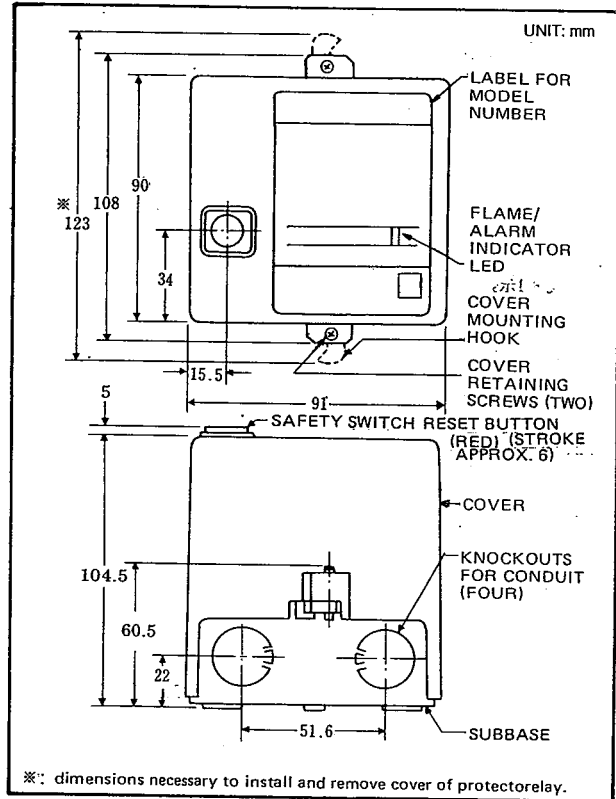

Fig. 1 External dimensions
EXTERNAL DIMENSIONS: See Fig. 1
The standard way of installing the Protectorelay is so that the cover retaining screws are vertically in line with each other, as shown at the top of Fig. 1. However, as long as the reset button of the safety switch is not facing downwards, it is permissible to mount the Protectorelay in any direction.
- (1) Slightly slacken the two cover retaining screws (top and bottom) shown in Fig. 1, then bring out the cover mounting hooks to the outside of the relay, as indicated by the broken line.
- (2) Grasp the subbase and cover with the left and right hands, respectively, and separate them left and right, being careful not to apply unreasonable force.
- (3) Perform installation in the reverse sequence to the above.